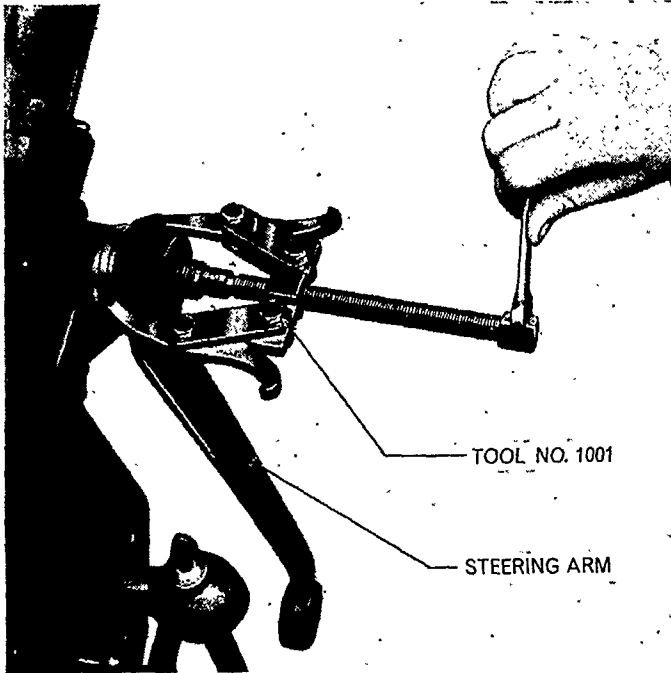

Figure 35
1. Remove the steering arm retaining nuts and lockwashers. Remove the steering arm using T.3054 or 1001, Figure 35.